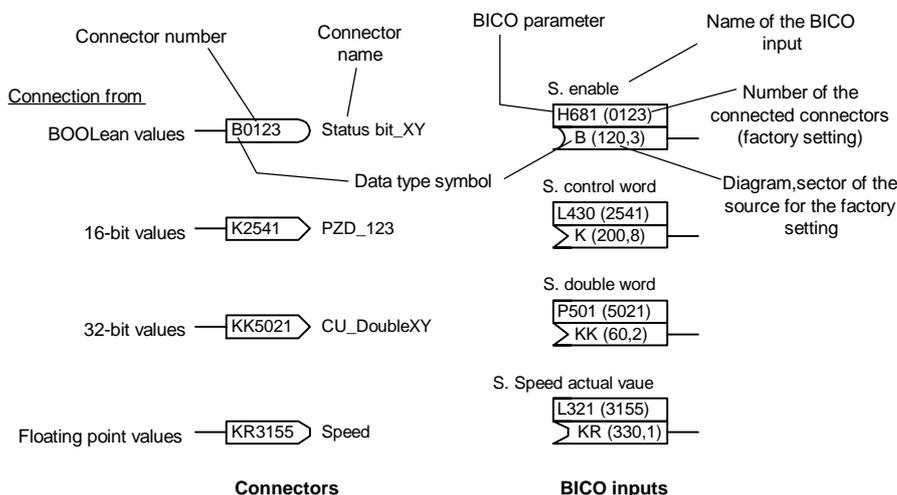

Fig. 7-1 Symbols for connectors and BICO inputs
**BICO parameters** This standard software package is extremely flexible when it comes to the freely connectable input- and output signals using BICO technology. Contrary to (value) parameters, BICO parameters define connections. This means that parameters specify a fixed value at an input, whereby BICO parameters select the signal source, which is connected with the input. This signal source must be defined in the (Fig. 7-1)